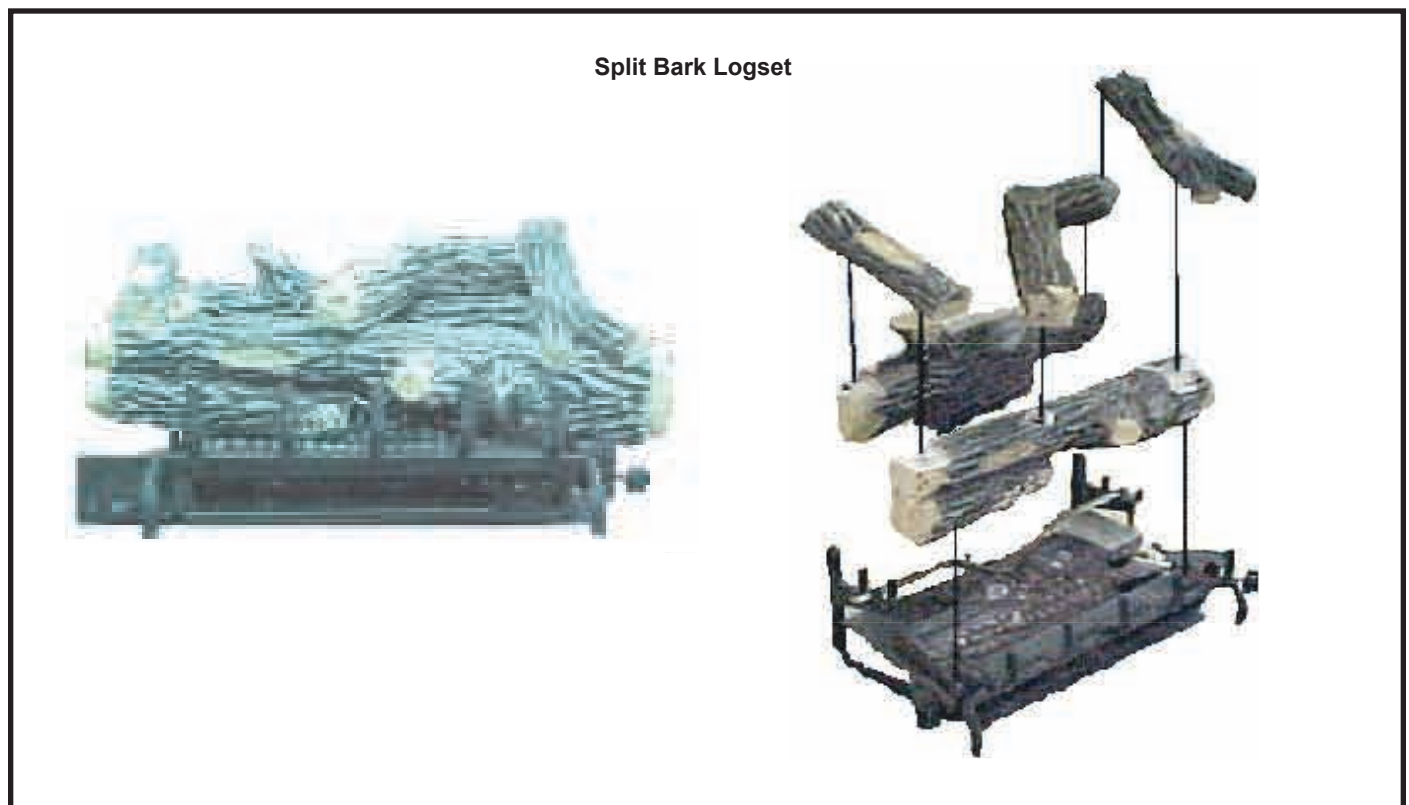

Fig. 12 Split Bark logset position.
The logs must be positioned ONLY as illustrated in Figures 12, 13 and 14
- The left and right twigs are to be placed into the appropriate notches provided in the front and rear logs as shown. (Figs. 12, 13 and 14)